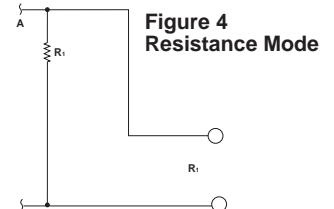

Figure 4 Resistance Mode
- The resistance mode differs from the voltage mode only by removal of the power source. (See Figure 4.)